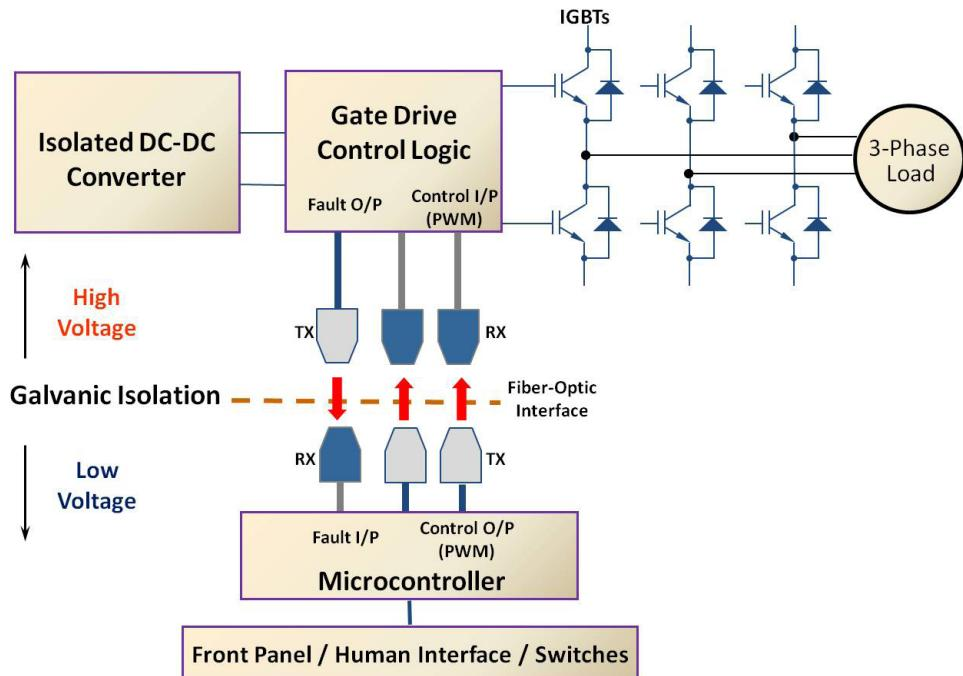

Figure 7. IGBT's Gate Driver Block Diagram
Another application of VLF is in Power inverters. A power inverter is a device that converts direct current (DC) to alternating current (AC). An inverter is necessary if the electrical source provides direct current (such as batteries, solar panels, or fuel cells), but the device to be powered needs alternating current to work. Large power inverters normally use IGBTs (Insulated Gate Bipolar Transistor) for switching (Figure 7). To control these IGBTs fiber optic cable are ideal because they provide galvanic isolation and the EMI immunity.